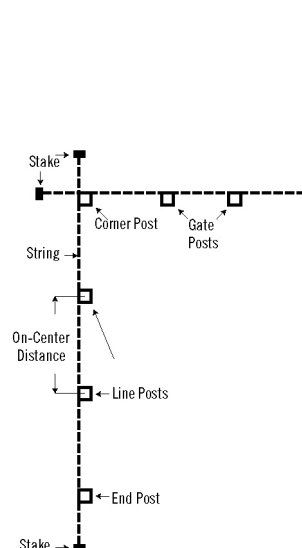

Figure 1a - Sample Staking and Post Layout
- Run a string line to locate the fence line, using the line to establish the outside faces of your posts (**Fig. 1a**).